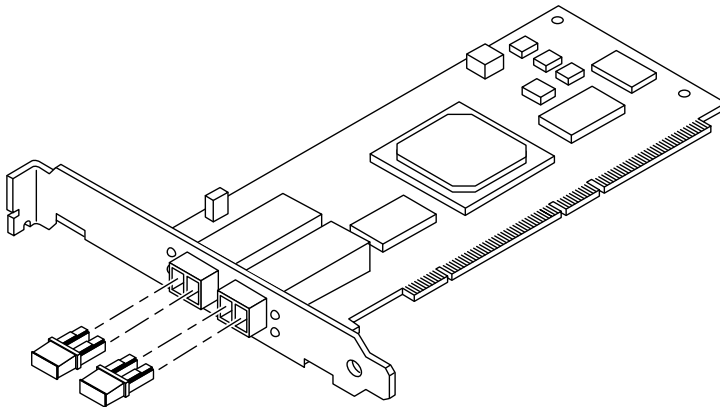

FIGURE 1-3 Sun StorEdge 2G FC PCI Dual Channel Network Adapter Dust Covers
1. **Pull the two dust covers out of the 2x5 optical transceiver (OT) connectors (FIGURE 1-3).**